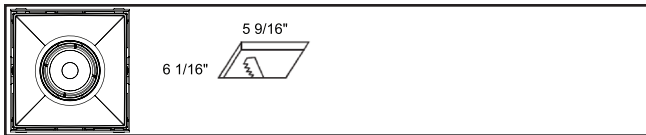

Figure 1.5.
- 1 Light: 5 9/16" X 6 1/16" (Figure 1.5)